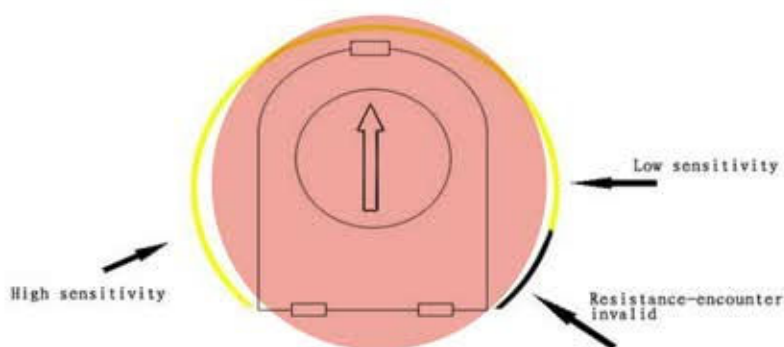

Fig 16
7.1 Gate open blocked detection: Fig 16
Capacitors are connected with control board before use motor, please confirmed the interface of capacitors is secure. Please see picture Fig 16